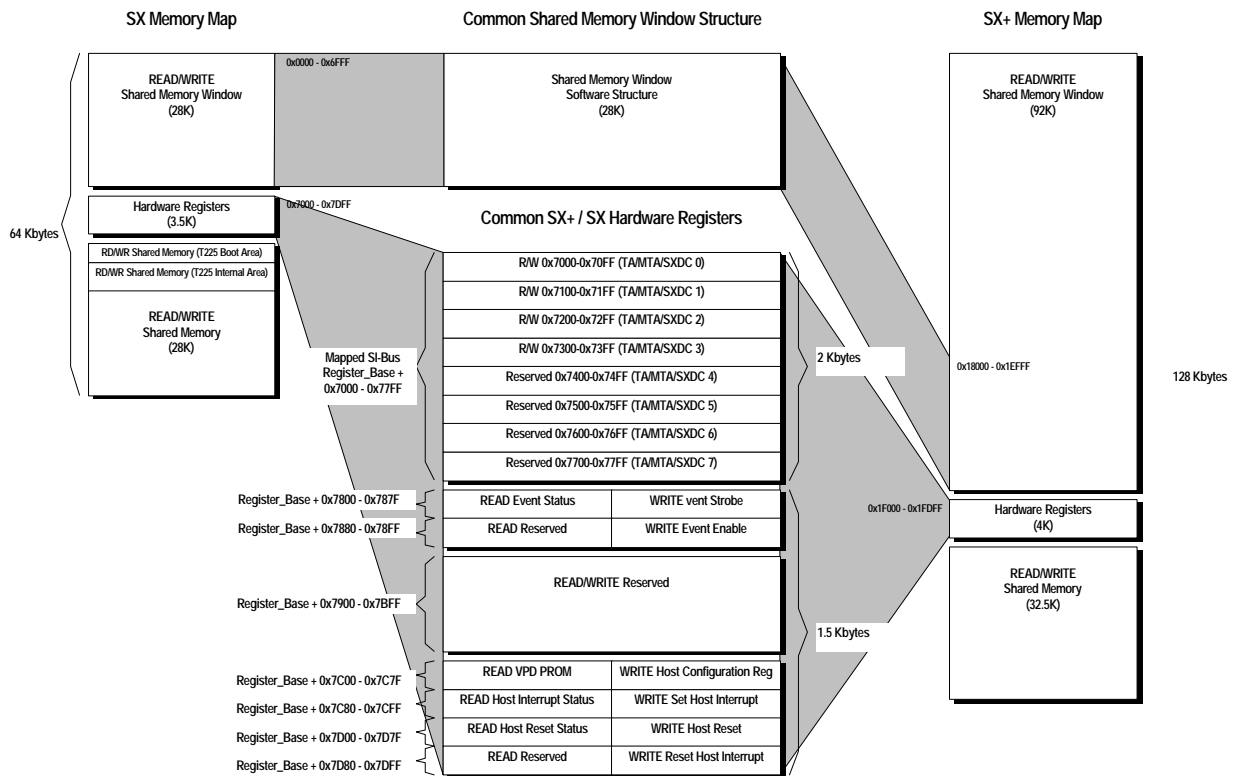

Figure 4 SX+ & SX Memory Map (not to scale)
5.2.3 Figure 4 shows the shared memory map of the host card visible to both the host PC and the MCF5206e & T225 for all card types. (except the ISA board in 8-bit mode, when only the first 32K is visible)